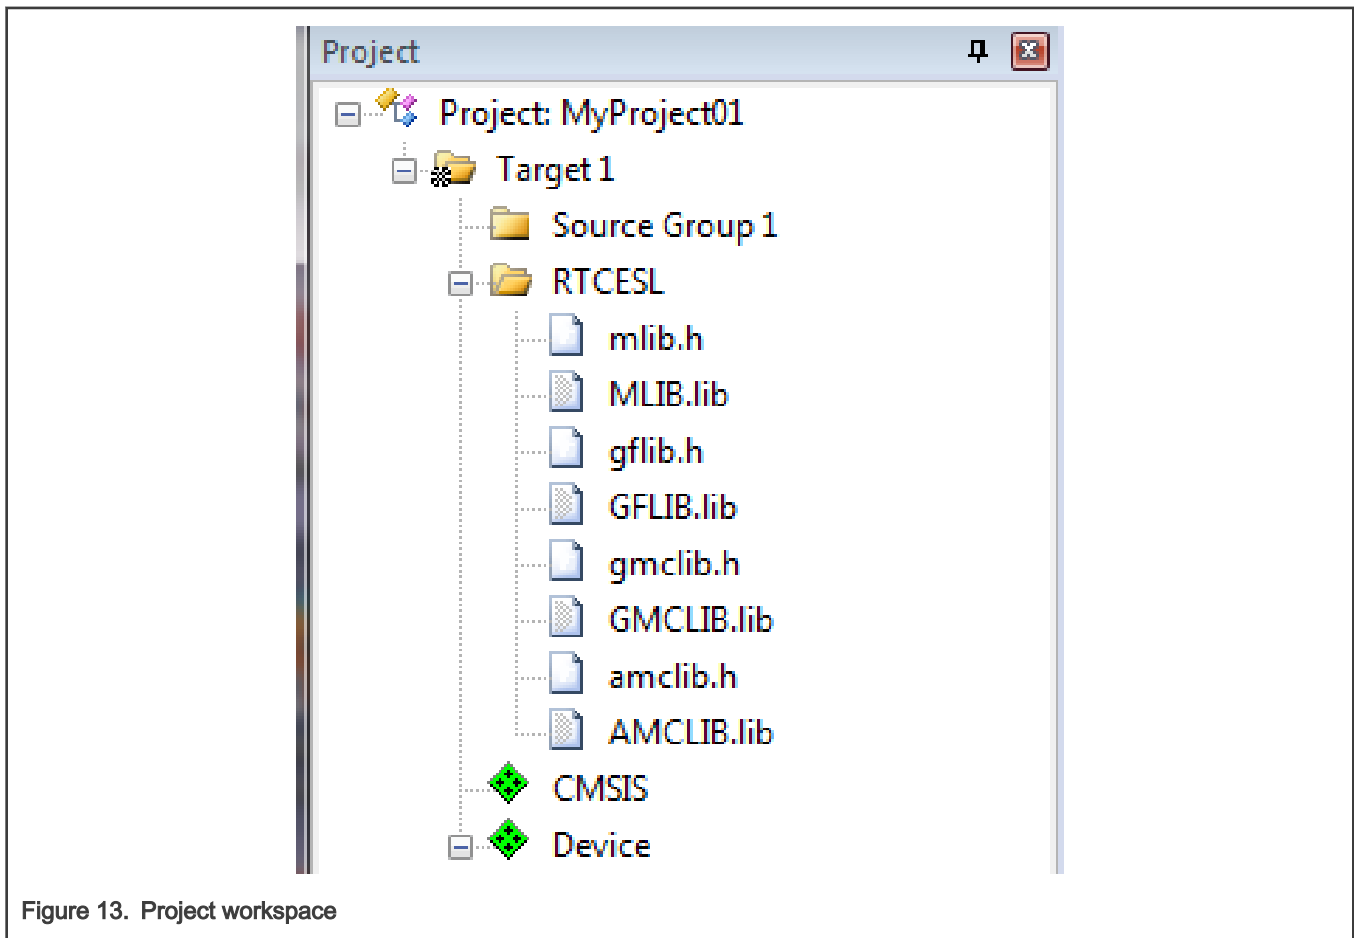

Figure 13. Project workspace
14. Now, all necessary files are in the project tree; see Figure 13. Click Close.